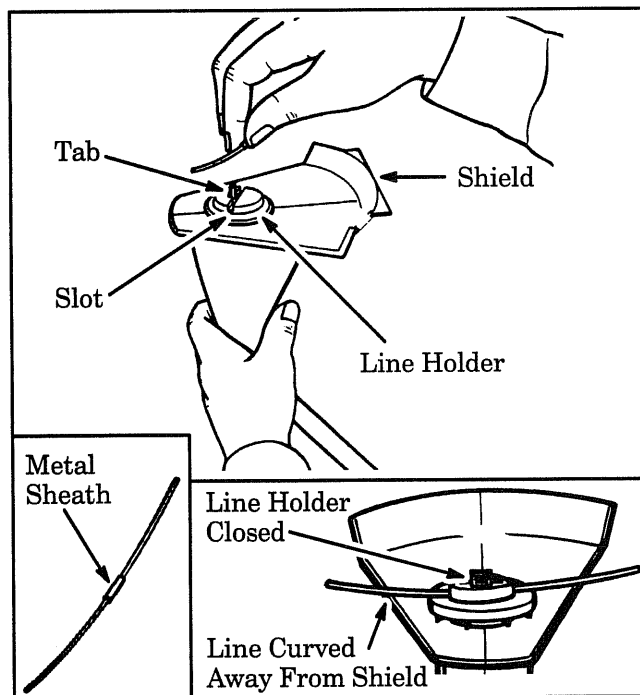

Figure 1
1. Hold the tool as shown in Figure 1.
2. Lift the tab on the line holder. Figure 1.
NOTE: If (in step 3) you are installing a trimmer line that is curved, make sure that the ends of the line are curved away from the shield. Figure 1 (inset, lower right). If the line contacts the shield when the unit is running, stop the motor and reinstall the line until it no longer contacts the unit.
3. Place the metal sheath [Figure 1 (inset, lower left)] into the slot in the line holder. Figure 1.
4. Push the tab down to the closed position. Figure 1 (inset, lower right).